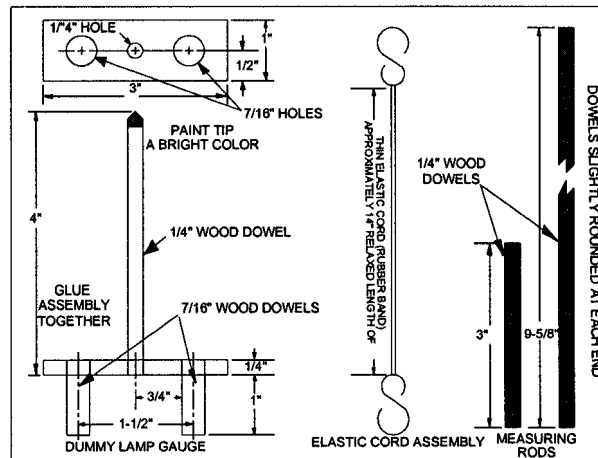

Figure 4-9
- b. Install at least 4 elastic cord assemblies (Figure 4-9) on the clips securing the large glass mirror in the lantern. Use opposite locating clips for each cord assembly. The cords should cross at one point (snap to prevent binding). Remove both spherical reflectors from the lampchanger. Rotate the lampchanger turret to obtain access to the rear reflector by raising the trip lever (if in primary position), or rotating to the primary position (if tripped).